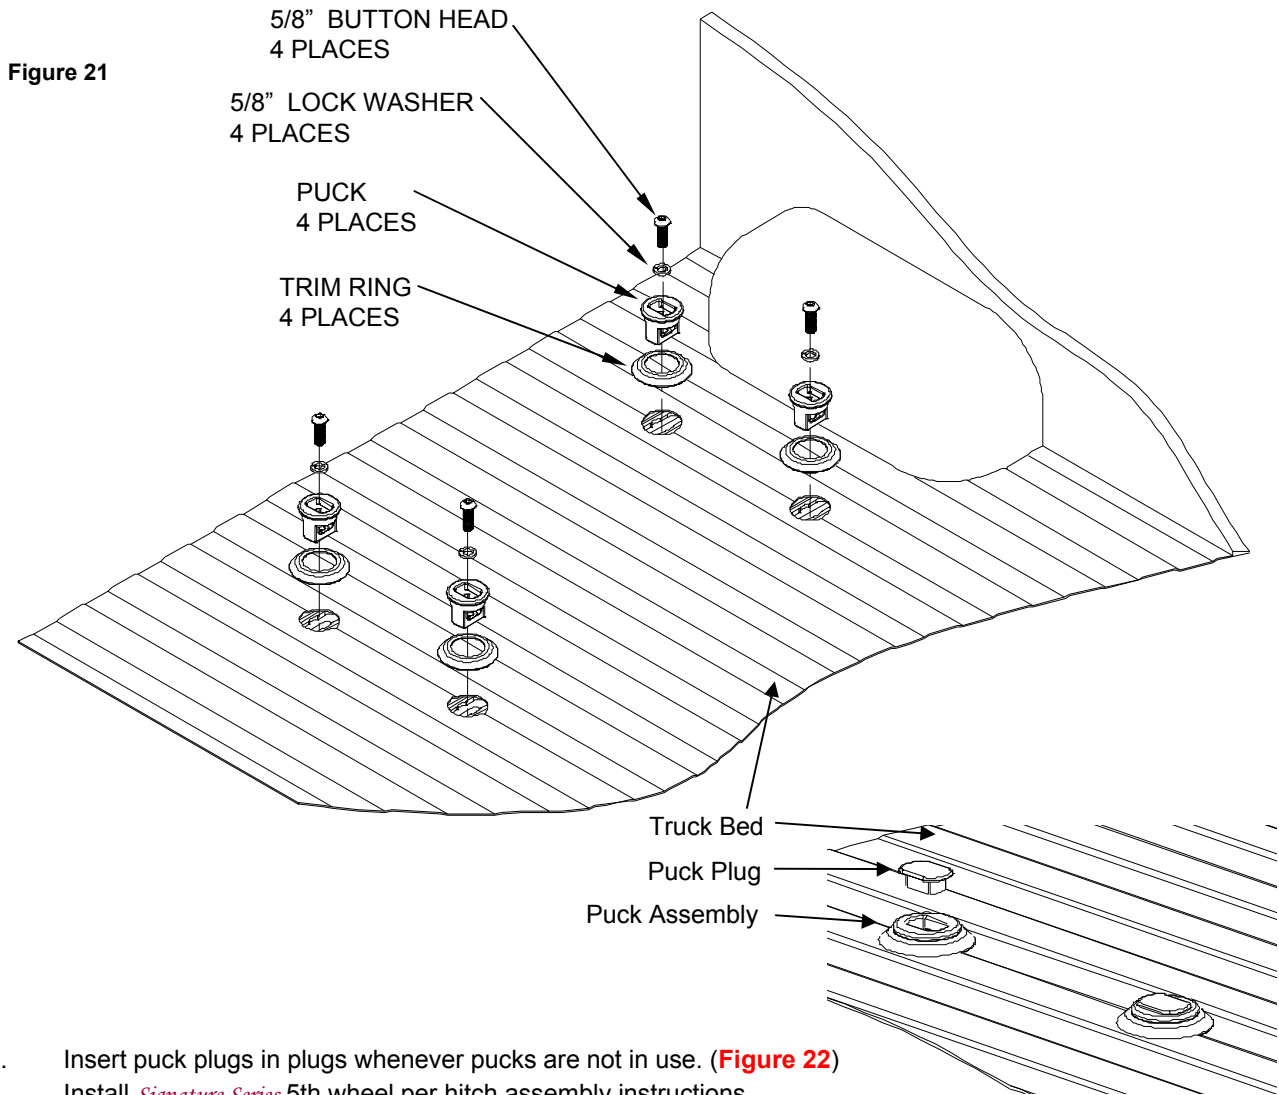

Figure 22
- Insert puck plugs in plugs whenever pucks are not in use. (**Figure 22**)